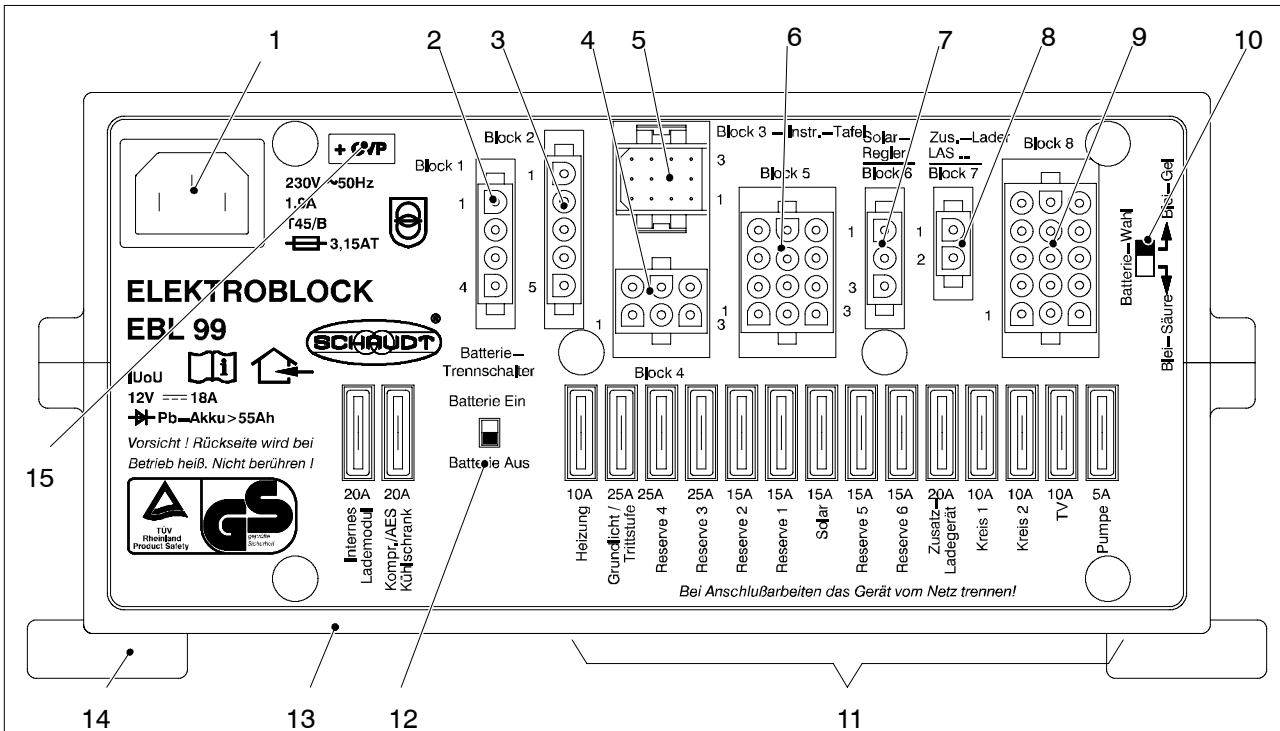

Fig. 3 Layout of EBL 99 electrobloc (front)
- Turn the battery cut-off switch (see Fig. 3, Pos. 12) to "Off". The following connections are isolated from the living area battery: